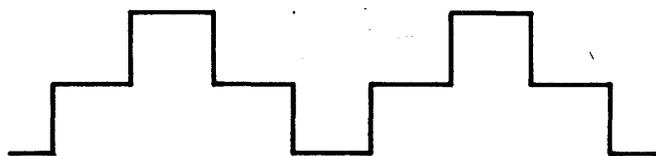
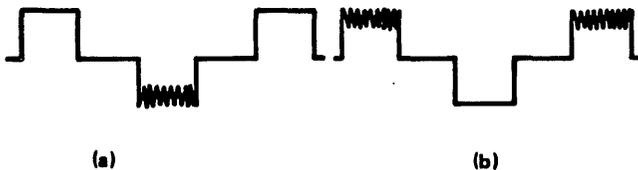

Figure 4-5. Correct Waveform
Figure 4-7. Unstable Waveforms
4. The waveform should be as shown in figure 4-5.
5. Adjust RV4 until the waveform shown in figure 4-5 becomes unstable as shown in figure 4-7(a).
6. Counting the number of turns, adjust RV4 until the waveform becomes unstable as shown in figure 4-7(b).
7. Adjust RV4 in the opposite direction by the number of turns divided by 2. The waveform should be as shown in figure 4-5 with RV4 adjusted to its mid-range position.